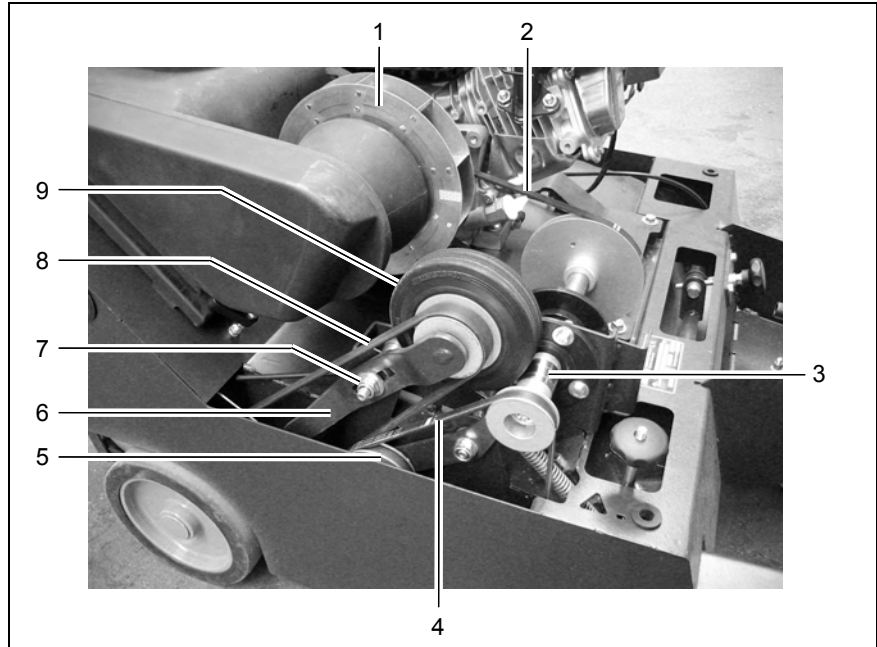
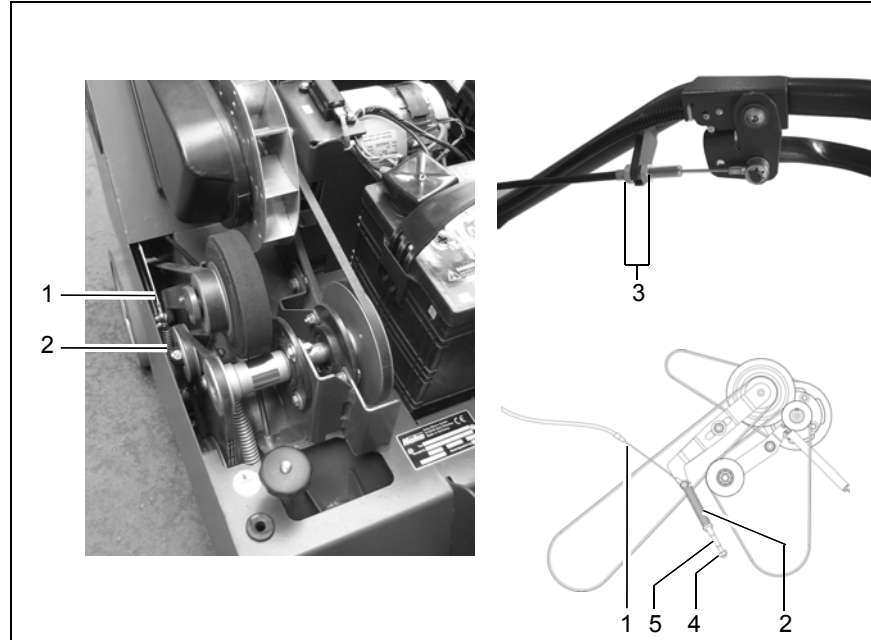

Fig. 16
Fig. 17
Ensure the engine has stopped before opening the hood. Risk of injury through running belt drives (Fig. 16/2+4+8) and rotating fan (Fig. 16/1)!
If you notice that the rear wheel shaft is no longer driven properly, it is possible that the tension of the drive belts (Fig. 16/2+8) is no longer sufficient or the running surface of the friction wheel (Fig. 16/9) is worn (distance between wheel and running surface > 1mm).
1. Loosen the screw connection (Fig. 16/7) in the friction wheel crank (Fig. 16/6).
2. Tension the belt (Fig. 16/8) which leads to the rear wheel shaft by moving the friction wheel crank (Fig. 16/6) in the slot using an appropriate tool.
The friction wheel (Fig. 16/9) thereby lies against the drive shaft (Fig. 16/3).
3. Tighten the screw connection (Fig. 16/7) in the friction wheel crank (Fig. 16/6).
5. Turn the hexagon nut (Fig. 17/4) so far on the eye bolt (Fig. 17/5) until the tension spring (Fig. 17/2) tensions and the friction wheel retracts 1-2 mm from the drive shaft (Fig. 16/3).
6. Turn the hexagon nuts (Fig. 17/4) one revolution further.
7. Complete any fine adjustment using the Bowden cable adjusting nuts (Fig. 17/3) on the handlebar: turn the adjusting nuts (Fig. 17/3) so that the distance between friction wheel and drive shaft is between 0.4 and 1 mm.